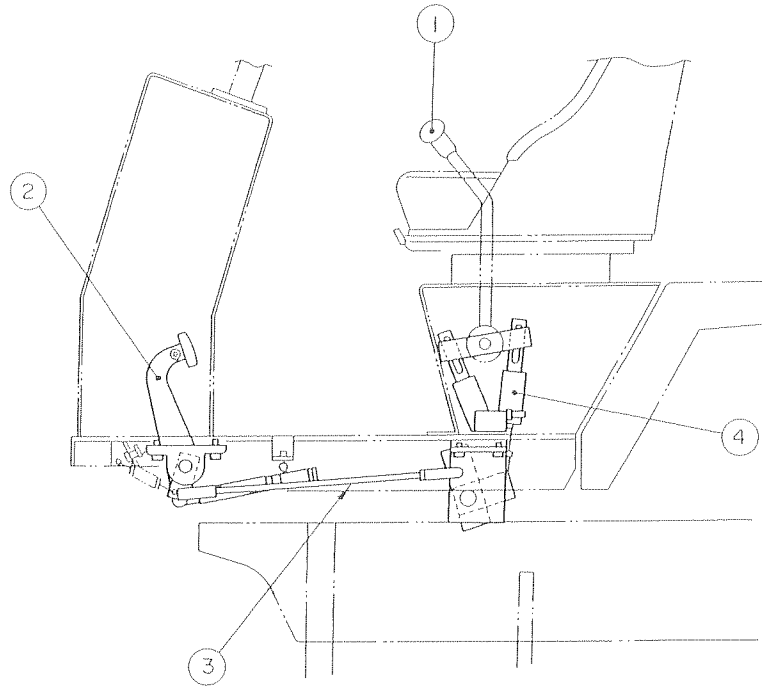

Fig. 55
- (2) Adjustment of rod
Adjust rod ③ (Fig. 55) so that brake lever travels 2 to 3 notches of ratchet when brake is applied.
After that relax brake lever completely and adjust rod ③ (Fig. 55) so that height of brake pedal from floor board stands about 100 mm (3.9 in).